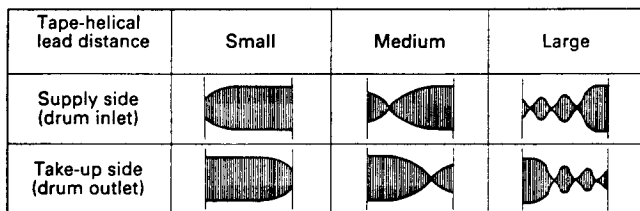

Figure 28.
- 3) Looking at the envelope adjust guide roller height so that the tape runs along the drum lead. The envelope waveform will appear as shown in Figures 28 or 29 if the video tape runs above or below the helical lead position.